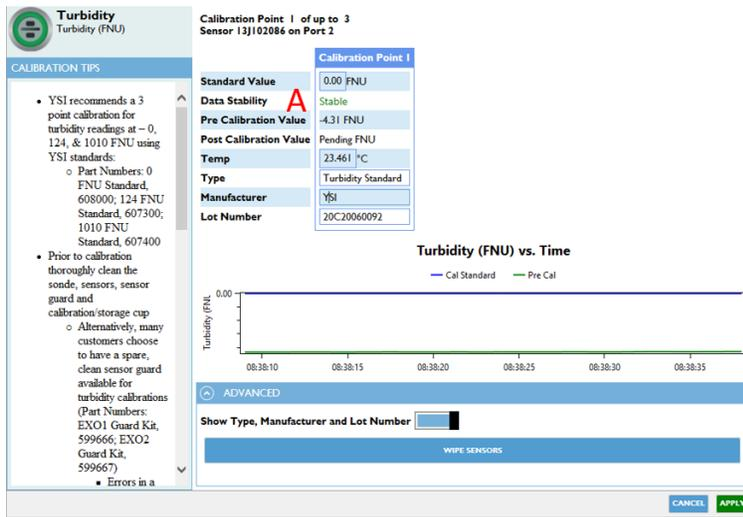

Figure 92. First calibration point.
While entering values, probes will begin stabilizing. Wait until data is stable [A in **Figure 92**].
**STEP 4** | When the data are stable, click “Apply” to accept this calibration point (**Figure 92**).
This will take you to a new calibration screen. Enter the data for next calibration point as shown in **Figure 92**.